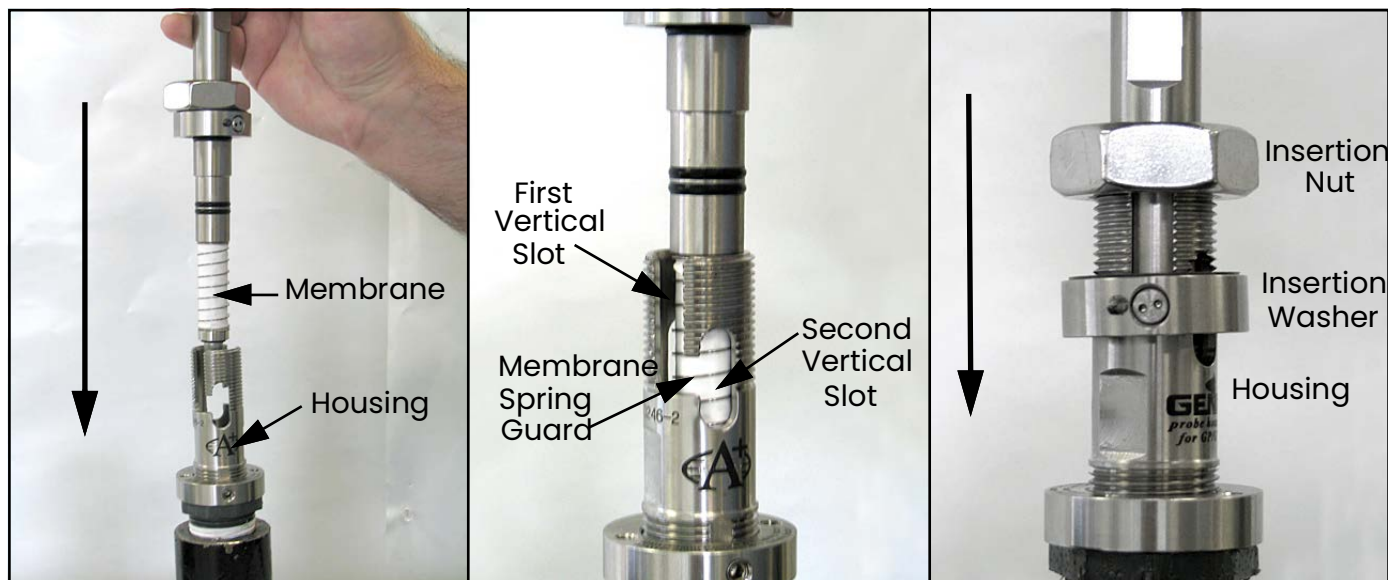

Figure 18: Installing the Probe
3. Refer to *Figure 18* below and position the membrane end of the probe above the installed housing. Slowly lower the probe into the housing. Avoid membrane contact with the upper section of the housing. DO NOT APPLY DOWNWARD FORCE. The probe should slide easily into the housing. Lower the probe only enough to thread the insertion nut one complete turn of thread engagement.